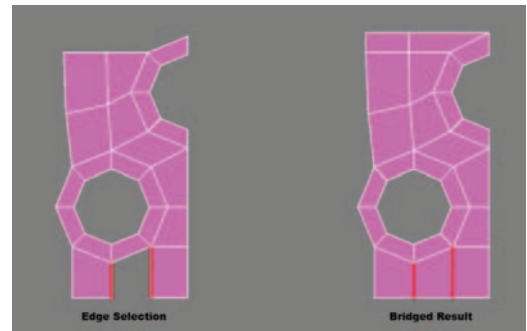

Figure 5.12 Edge selection and resulting bridge.
13. There is a work-flow pattern developing here; can you see it? Use the Bridge function to fill in the open spaces between our new edges (Figure 5.12).